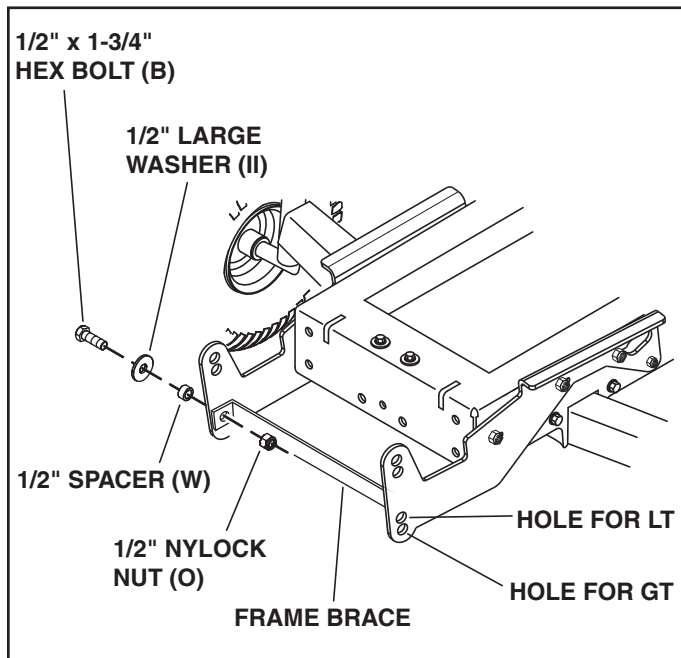

FIGURE 19
STEP 20: INSTALL FRAME BRACE (SEE FIGURE 19)
- Install the frame brace to the inside of the side plates using two 1/2" x 1-3/4" bolts (B), large 1/2" washers (II), 1/2" spacers (W) and 1/2" nylock nuts (O). Install the brace in the bottom holes for Garden (GT) Tractors and the second from bottom holes for Lawn (LT) Tractors. **Do not tighten yet.**